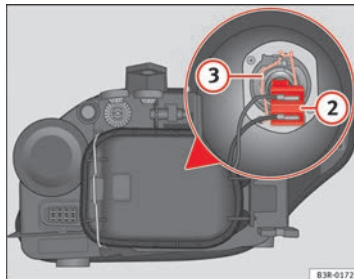

Fig. 211 Dipped beam headlights
- Pull the connector ⇒ Fig. 211 ② from the bulb.
- Unclip the retainer spring ⇒ Fig. 211 ③ pressing inwards to the right.